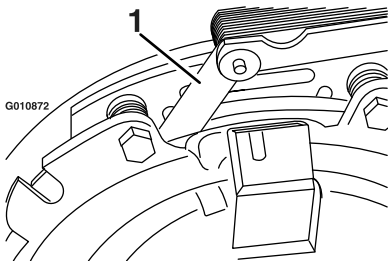

**Figure 72**
- B. Using needle-nose pliers, or by hand, hold the tab and remove the shim (Figure 72).
Remove any buildup of grass, dirt, or other debris from the engine screen. This helps ensure adequate cooling and correct engine speed and reduces the possibility of overheating and mechanical damage to the engine (Figure 72).